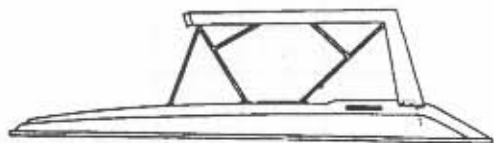

Figure L4: 214 Candia Suntop
1. Install the extension with main bow to hinges on the deck. On a 210 Candia model, attach the forward bow to deck. See Figure L4.